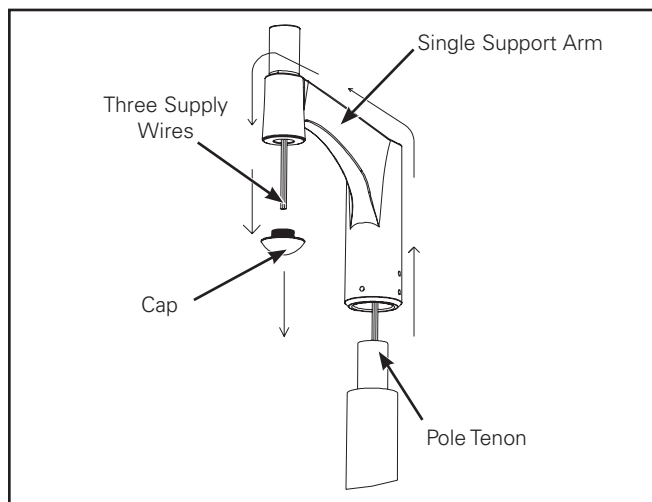

Figure 5.
3. Loosen and take off the cap from single arm bottom hole. (Figure 5.)
4. Insert supply wires from the pole through the bottom hole of single arm and pull them down through the cap hole. (Figure 5.)